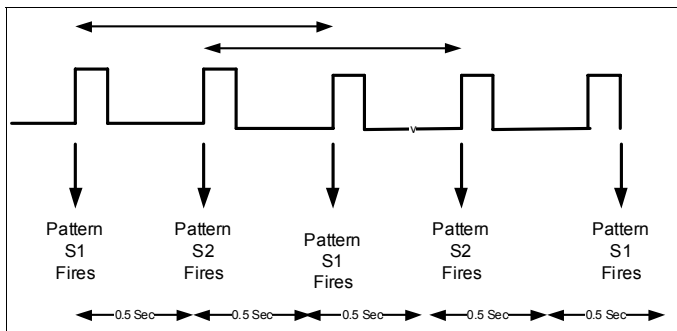

FIG. 1: TWO SYNC PATTERNS ARE ½ SECOND APART
- 4. Sync Pattern:** The GEMC-NACXX or GEMC-XXXMB have two sync patterns: S1 and S2. A synchronized NAC output must be assigned to S1 or S2. The two sync patterns are ½ second apart as shown in Fig 1 below. S2 is referred to as the "offset" since it is offset ½ second from S1.